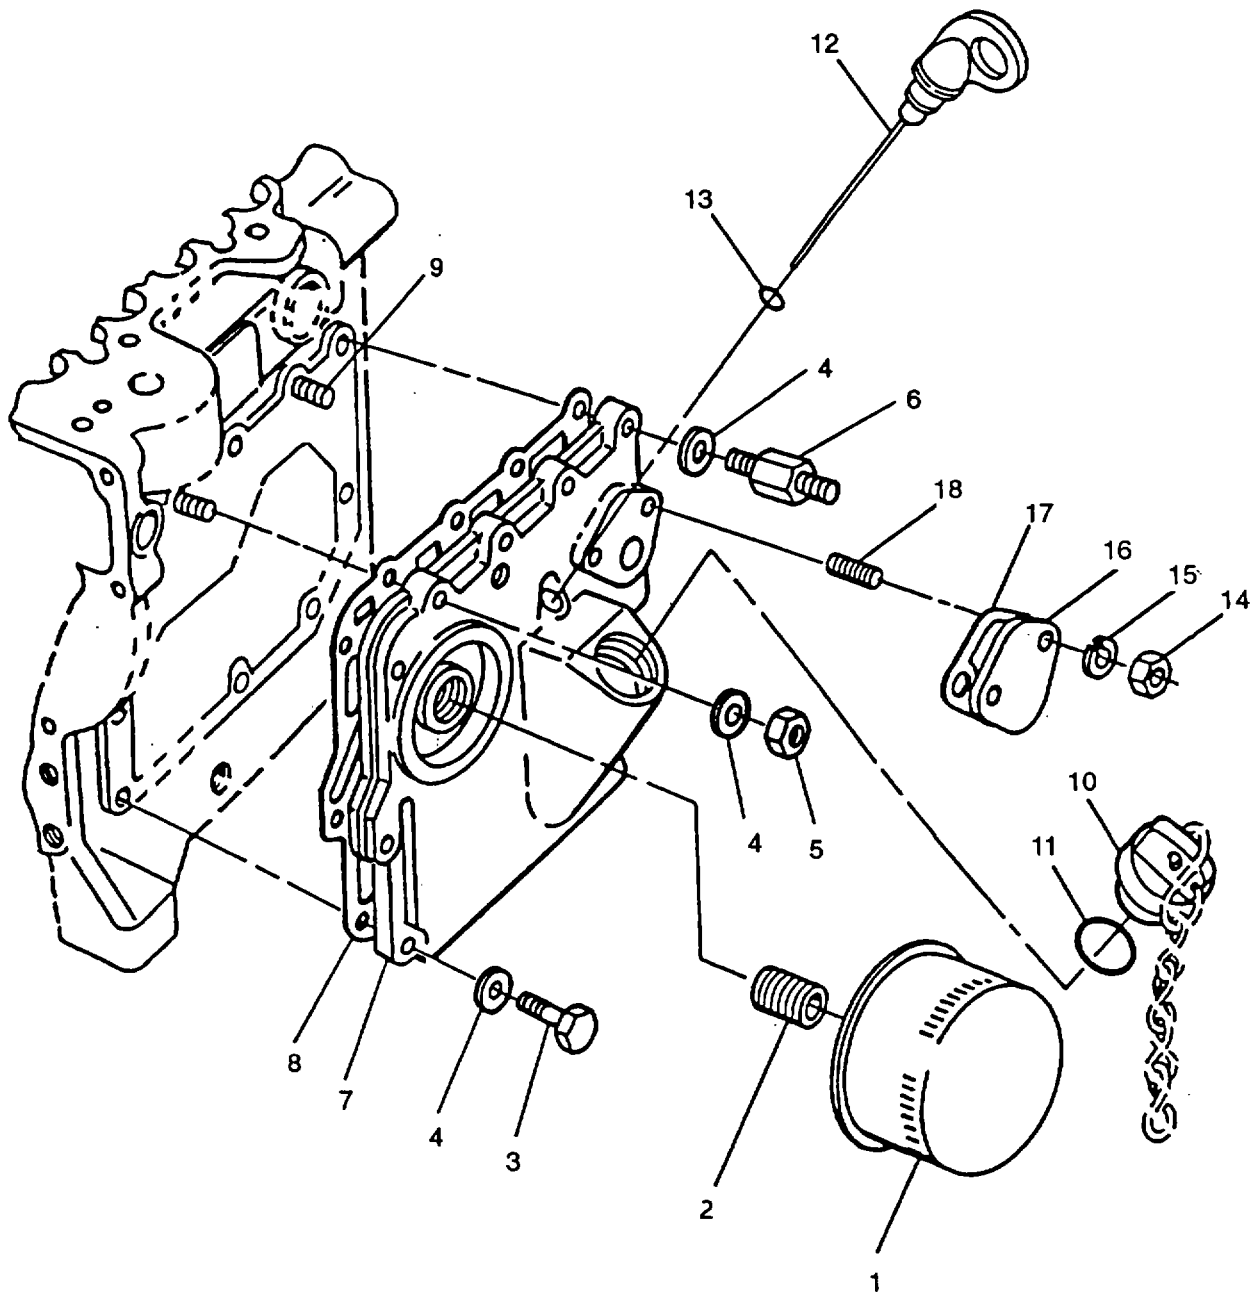

FIGURE 3-15. Oil Filter and Crankcase Door
- b. Loosen cartridge (1, FIGURE 3-15) by turning counterclockwise with a filter wrench.
- e. Apply light coat of engine lubricating oil (MIL-L-2104) to new cartridge (1) gasket.
- f. Place cartridge on adapter (2) and turn clockwise until cartridge is hand tight.
- d. Remove seven bolts (3, FIGURE 3-15) two nuts (5), two stand off studs (6), and eleven washers (4) securing crankcase door (7) to crankcase; remove door (7) and gasket (8). Discard gasket.
- e. If damaged, remove studs (9) from engine.
- b. Remove adapter (2, FIGURE 3-15).
- c. Remove oil filler cap (10) and preformed packing (11). Discard preformed packing.
- d. Remove dipstick (12) and remove preformed packing (13) from dipstick. Discard preformed packing.
- e. Remove two nuts (14) and lockwashers (15) securing plate (16); remove plate (16) and gasket (17). Discard lockwasher (15) and gasket (17).
- f. Remove two studs (18).
- g. Install two studs (18).
- h. Position new gasket (17) and plate (16) on studs (18) and secure with two nuts (14) and new lockwashers (15).
- i. Install new preformed packing (13) on dipstick (12) and install dipstick.
- j. Install new preformed packing (11) on oil filler cap (10) and install cap.
- k. Install adapter (2).
- a. Inspect dipstick (12, FIGURE 3-15) for legibility. Replace if damaged.
- c. Inspect crankcase door (7) for cracks, dents, or other damage. Replace if damaged.
- d. Inspect adapter (2) for thread damage and replace as necessary.
- b. If removed, install tappet studs (9, FIGURE 3-15) in engine block. Refer to FIGURE 3-8, for proper alignment with tappet slot and tappet movement.